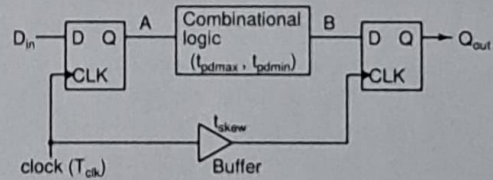

Figure 6
- (b) Consider the scenario shown in Fig. 6. Find the maximum delay (t_{pdmax}) and minimum delay (t_{pdmin}) of the combinational logic such that setup and hold time violations are avoided for the circuit. It is given that clock to propagation delay (t_{pcq}), setup time (t_{su}) and hold time (t_h) for D flip-flops are 5 ns, 4 ns and 2 ns, respectively. Clock period (T_{clk}) is 10 ns and the buffer delay (t_{skew}) is 5 ns. Clearly draw timing diagram and show your calculations. [4]